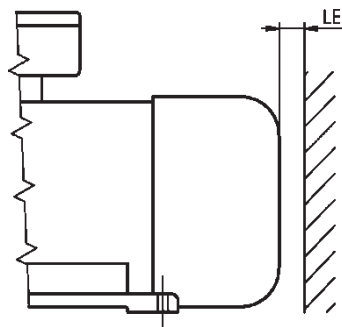

Figure 2: Minimum distance of obstacles from the air opening
The ventilator hood air inlet and outlet must not be obstructed, as there is the risk of heating beyond the permissible temperature class and of reducing the life of the winding insulation (→ Figure 2 and → Table 2).
Table 2: Minimum distance (LE) of an obstacle from the air opening. → Figure 2